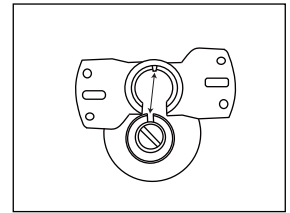
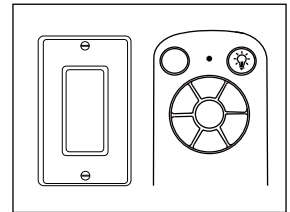

Figure 1
Figure 2
1. Insert the downrod ball head into the groove of the mounting bracket.(Figure 1)
2. About Light Memory: (Figure 2)
- Your new ceiling fan will require a grounded electrical supply line of AC110~130V/60Hz15 Amp Circuit. Electrical code requires use of a fan-rated outlet box to support the extra weight and motion associated with a ceiling fan. A fan-rated box will be labeled as such and typically supports up to a 70lbs ceiling fan. Fan-Rated Outlet Boxes vary in rating and design. Ensure the ratings of your ceiling fan outlet box meet the requirements for the ceiling fan being installed. Figure 1, Figure 2 and Figure 3 depicts different structural configurations that may be used for mounting the outlet box.
- Low-profile use (Figure 1):
- Deep-profile use (Figure 2)